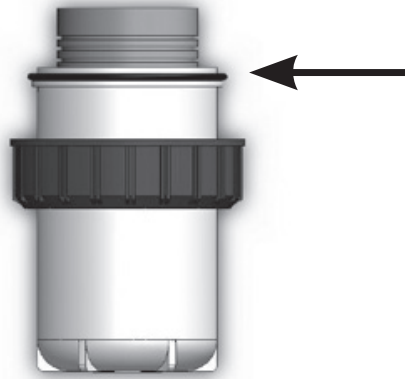

Figure 7 O-ring on Sump
- Discard the used cartridge and clean the sump housing as required. Make sure to thoroughly rinse the sump with water to remove any cleaning agents. Before installing a new cartridge, please ensure that the o-ring seals are properly seated on the shoulders at the top of the sump (Refer to Figure 7), if there is any visible damage on the o-rings please replace them (P/N: OR40-50). Reapply a generous amount of lubricant to the O-ring when reinstalling sumps.